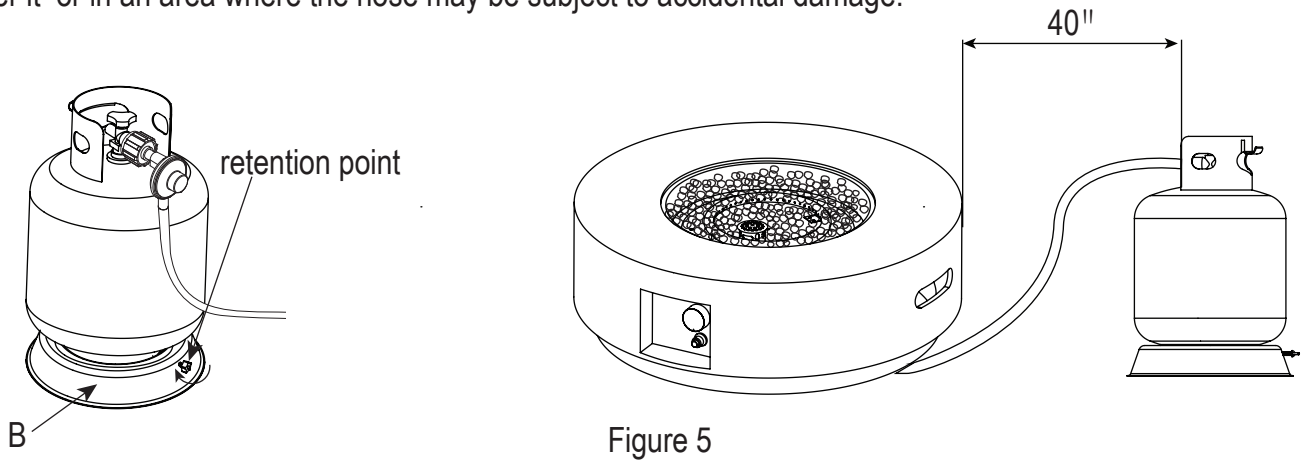

Figure 5
5. Secure the cylinder by tightening clockwise the retention point found on the tank seat (B) (see Figure 5), so that the cylinder cannot move from side to side or fall down.